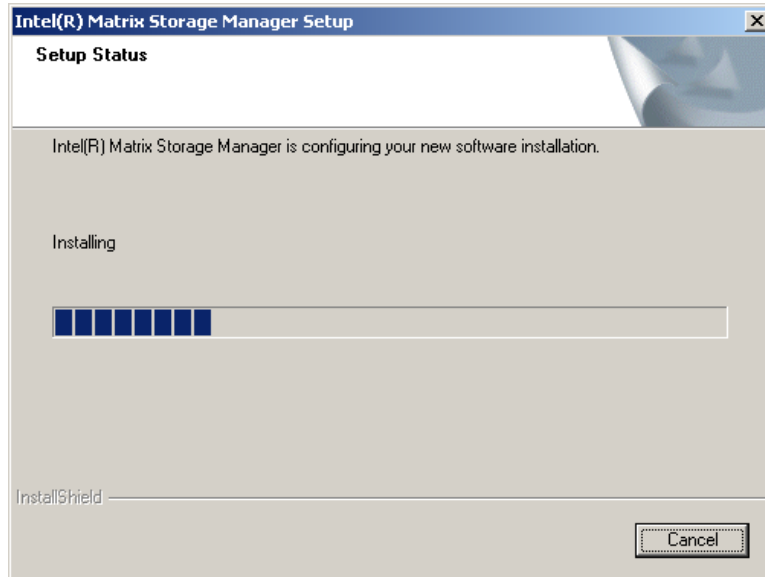

Figure 6-26: Matrix Storage Manager Setup Screen
Step 5: Figure 6-26 shows the Matrix Storage Manager software configuring the installation process.